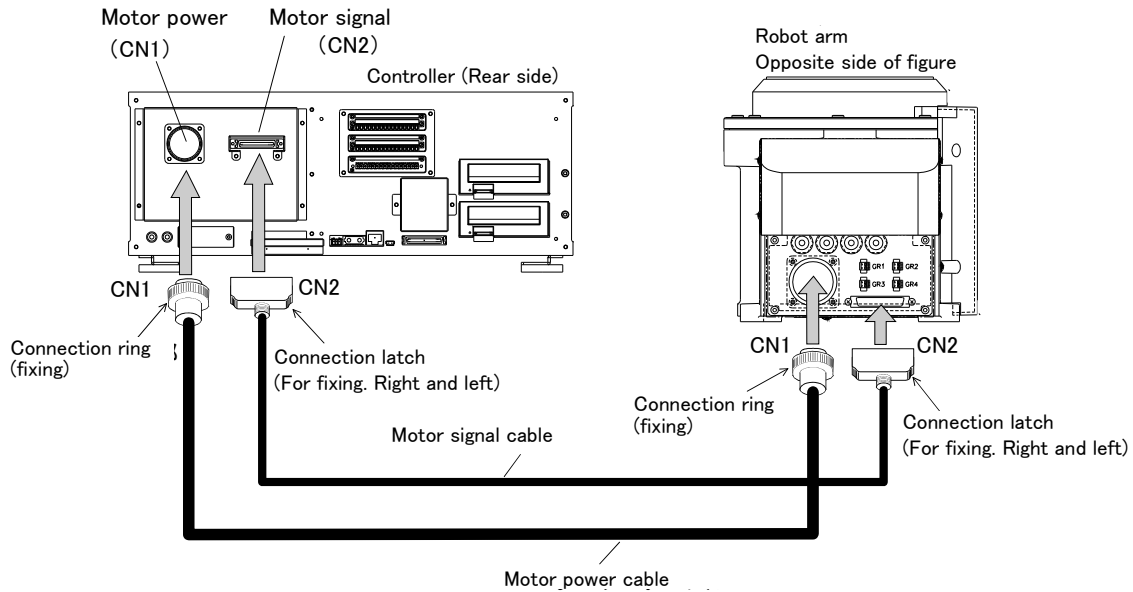

Fig.2-6 : Connecting the machine cables (CR750)
- 2) Refer to Fig. 2-6 and connect the machine cable to its corresponding connector on the robot arm side and controller.